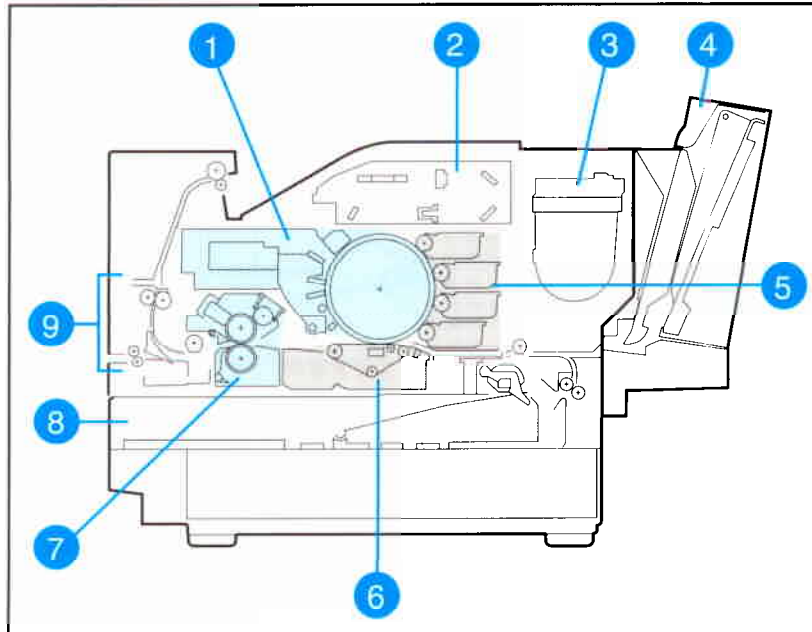

Figure 5-6 Print Path Components
In the HP Color LaserJet printer, a bank of four toner sources replace the standard toner cartridge and single reservoir of black and white laser printers (see Figure 5-6, item 5).